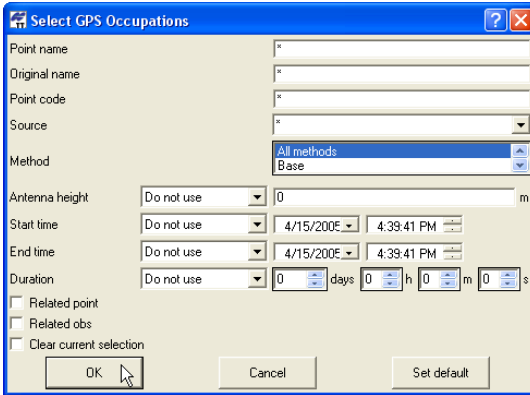

Figure 4-65. Select GPS Occupations
On the *Select GPS Occupations* dialog box, enter the following information and click **OK** (Figure 4-65 on page 4-68).
- Click **Set default** to apply the defaults shown in Figure 4-65.